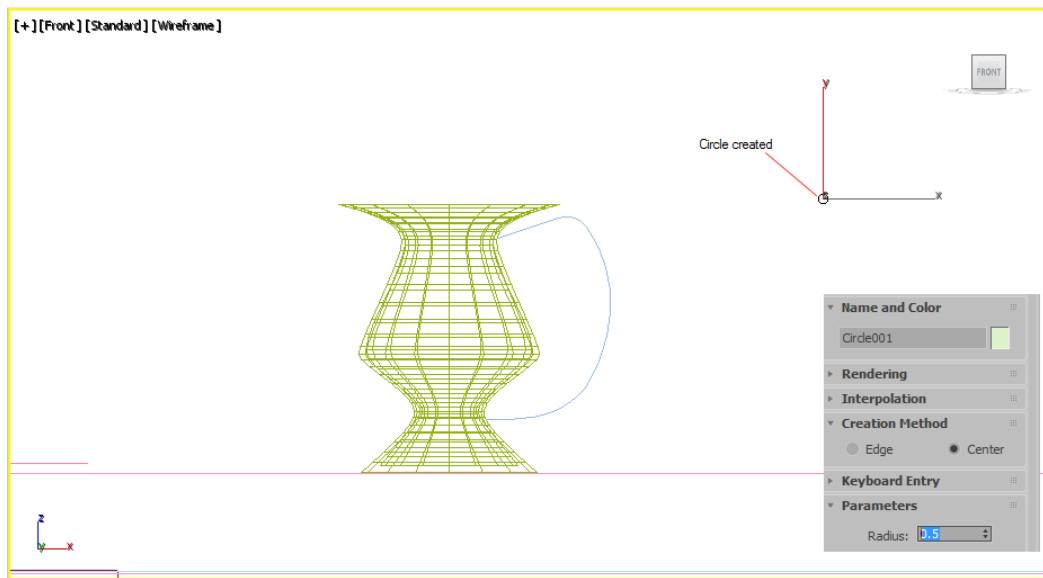

Figure 5-19 The circle created
1. Choose **Create > Shapes** in the **Command Panel**. Next, invoke the **Circle** tool. Create a circle anywhere in the viewport, as shown in Figure 5-19. Set the value **0.5** in the **Radius** spinner of the **Parameters** rollout.